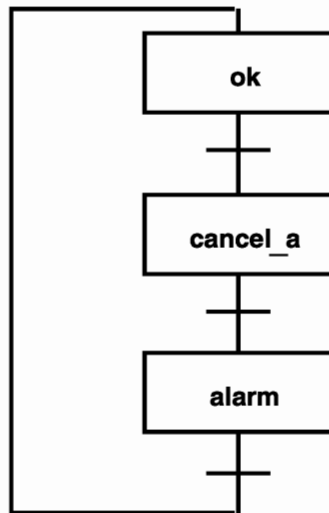

Figure 3-34 Alarm Handling SFC For The Example Application
The Sequential Function Chart (SFC) for the machine alarm handling is shown in Figure 3-34 with the Structured Text (ST) as follows: